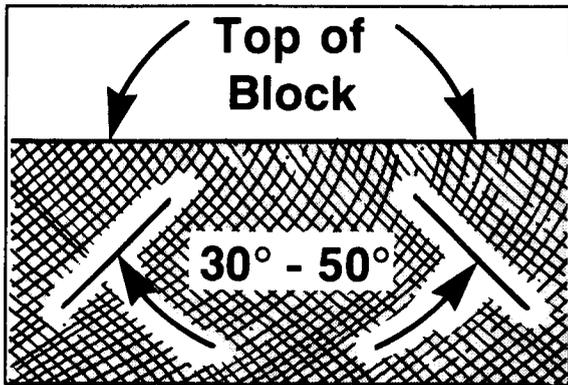

Figure 6-11
2. A correctly de-glazed surface will have a crosshatched appearance with lines at 15- to 25-degree angles with top of cylinder block, and 30- to 50-degree included angles on crosshatch (Figure 6-11).